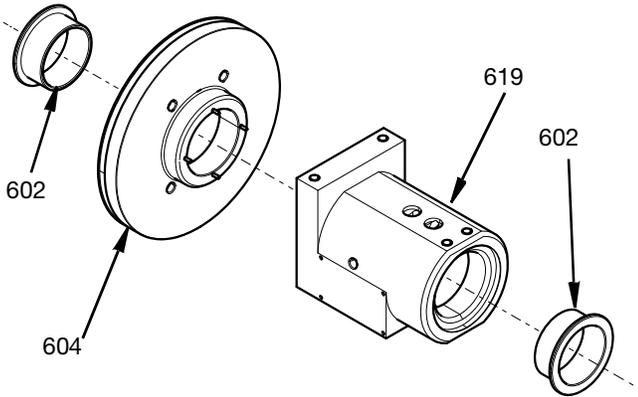

FIG. 24
2. Insert flange bearings (602) into swivel housing (619) and bearing housing (604). See Fig. 24.